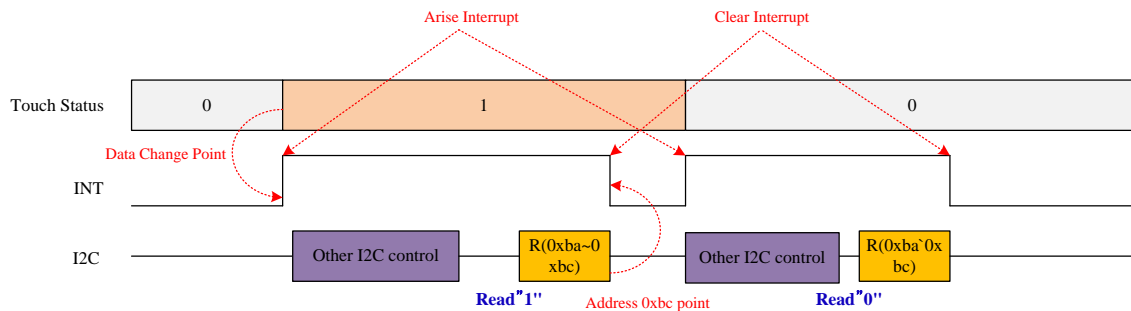

Figure 8-11: Example of TINT Signal
6. Interrupt signal automatically goes back to original level as soon as MCU reads appropriate registers. If button Application, MCU should read TOUT_PA~TOUT_BC (0xBA~0xBC), else if 2-D application, MCU should read POSITON registers (0xBF~0xC2). Figure 8-11 shows the change of interrupt polarity of TINT whose polarity is set to rising edge during initialization of the ATA5009.